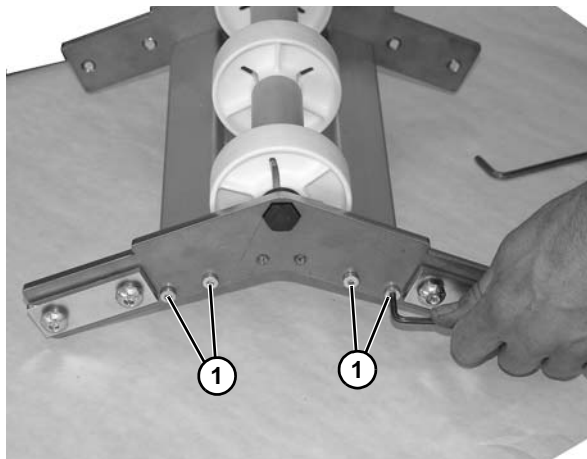

Figure 113
10. Remove four socket head screws (**Figure 113, item 1**) from upper knuckle assembly.